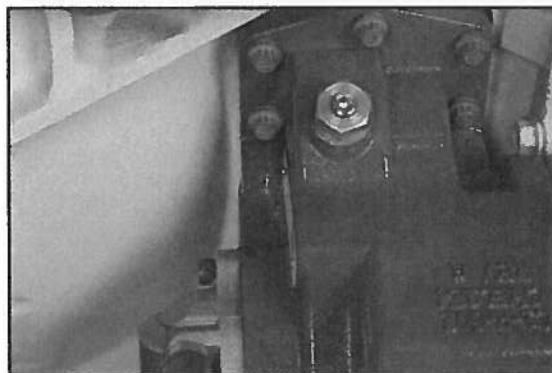

Fig. 15
7. Install the remaining capscrews. Torque all to 40-50 lbs-ft [54-68 Nm] (**Fig. 15**).